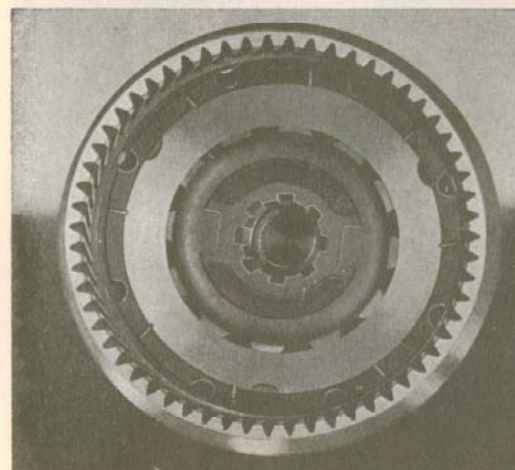

**Fig. 3-53. Assembling the free wheel, II**
- Assemble the free wheel hub (34), spring and roller retainer, see Fig. 3-52. Turn the roller retainer clockwise as far as it will go and lock it in this position with a key as shown in Fig. 3-53.